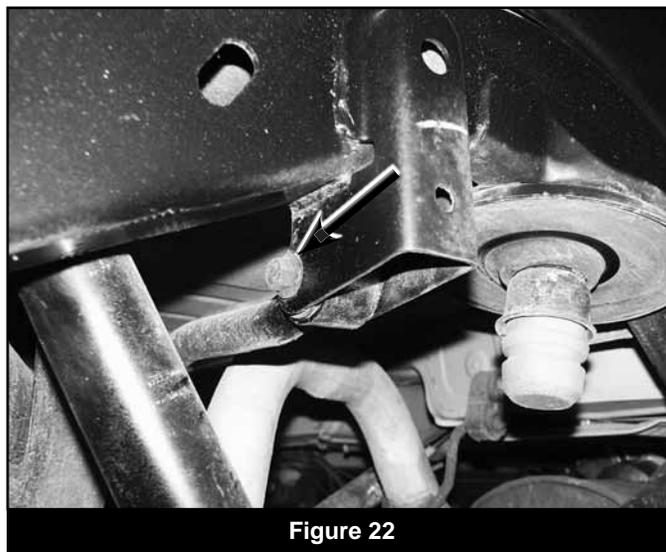

Figure 22
- Support the axle with a jack and disconnect track bar from the passenger's side frame mount (Fig 22). Retain hardware.